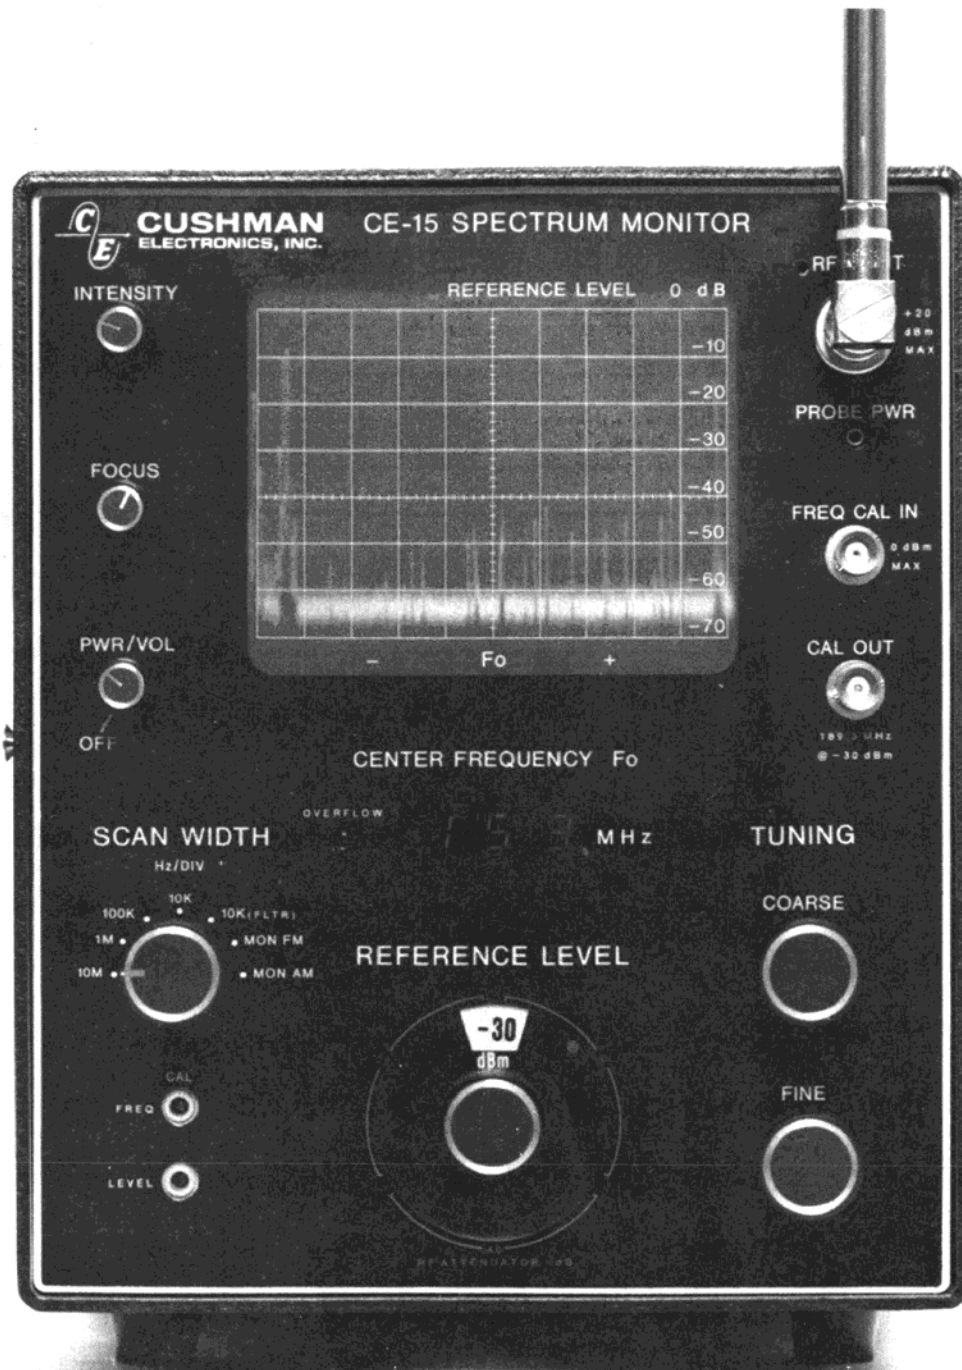
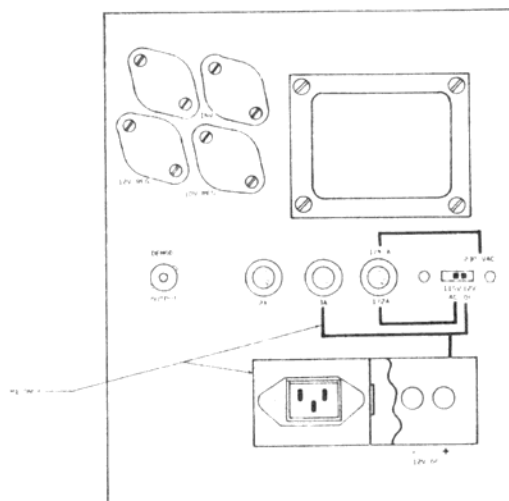

Figure 1-1. CE-15 Spectrum Monitor
Figure 2-1. CE-15 Rear Panel
2.01 The location of the front panel controls can be seen in Figure 1-1. In Table 2-1 the function and a brief description of the controls is given. Figure 2-1 is a sketch showing the rear panel controls and connectors.